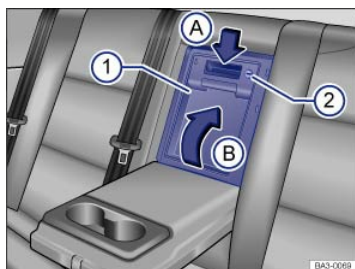

Fig. 96 In the rear seat backrest: Opening luggage compartment pass-through with lock.
- If the pass-through is equipped with a lock, use the Valet Parking key ⇒ Vehicle key set to unlock the luggage compartment pass-through ⇒ Fig. 96②.
- Working from the vehicle passenger compartment, guide the pass-through cover ① into the luggage compartment and engage it in its bracket.
- If the pass-through is equipped with a lock, use the Valet Parking key ⇒ Vehicle key set to lock the luggage compartment pass-through ⇒ Fig. 96②.